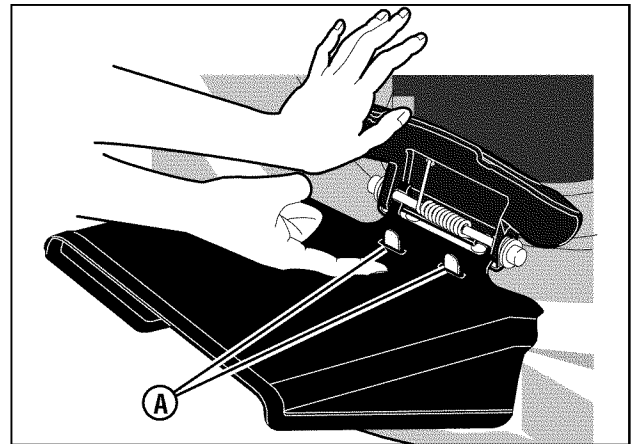

Figure 11: Side discharge deflector locking tabs
3. Lower the side deflector. Make sure the locking tab (**A**, **Figure 11**) goes through the slot in the side deflector.